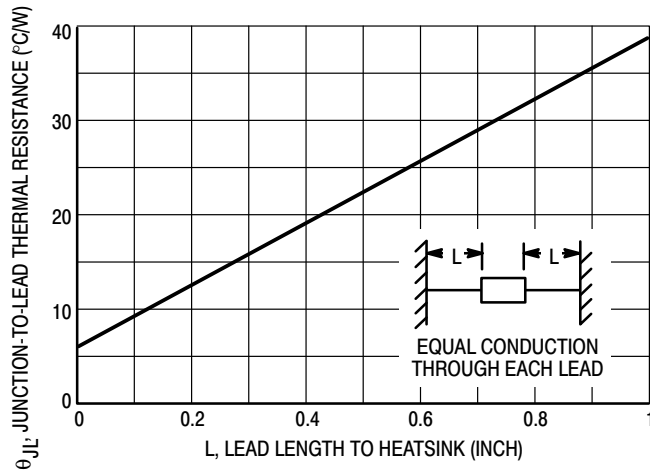
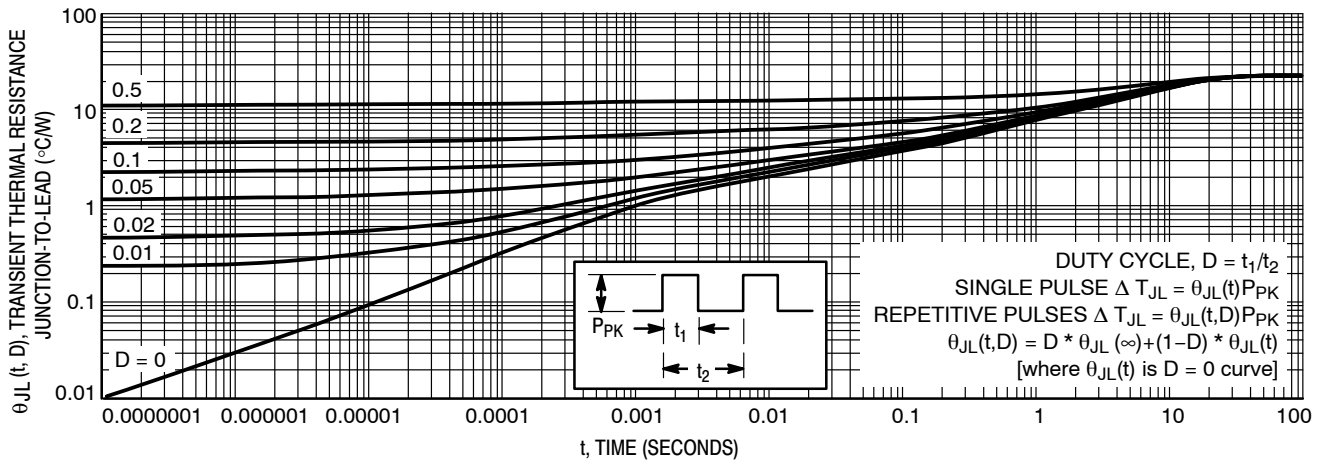
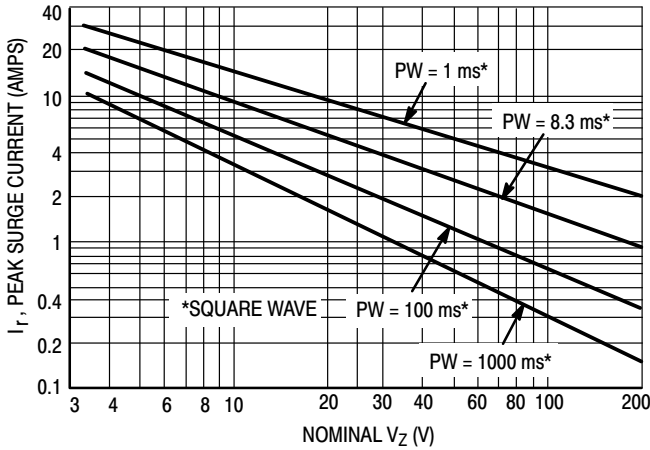
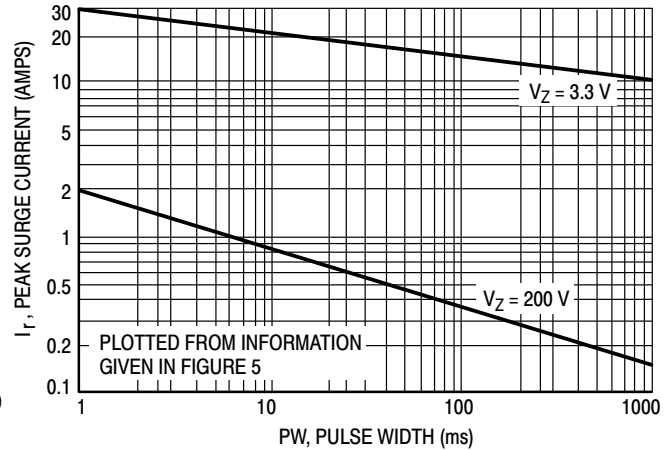

Figure 1. Typical Thermal Resistance
Figure 4. Typical Thermal Response
Figure 5. Maximum Non-Repetitive Surge Current
Figure 6. Peak Surge Current versus Pulse Width
- SURGE CURRENT (I_R):** Surge current is specified as the maximum allowable peak, non-recurrent square-wave current with a pulse width, PW, of 8.3 ms. The data given in Figure 5 may be used to find the maximum surge current for a square wave of any pulse width between 1 ms and 1000 ms by plotting the applicable points on logarithmic paper. Examples of this, using the 3.3 V and 200 V zener are shown in Figure 6. Mounting contact located as specified in Note 2 ($T_A = 25^\circ\text{C} + 8^\circ\text{C}, -2^\circ\text{C}$).
9. **SURGE CURRENT (I_R):** Surge current is specified as the maximum allowable peak, non-recurrent square-wave current with a pulse width, PW, of 8.3 ms. The data given in Figure 5 may be used to find the maximum surge current for a square wave of any pulse width between 1 ms and 1000 ms by plotting the applicable points on logarithmic paper. Examples of this, using the 3.3 V and 200 V zener are shown in Figure 6. Mounting contact located as specified in Note 7 ($T_A = 25^\circ\text{C} + 8^\circ\text{C}, -2^\circ\text{C}$).
ΔT_{JL} is the increase in junction temperature above the lead temperature and may be found from Figure 4 for a train of power pulses or from Figure 1 for dc power.
Data of Figure 4 should not be used to compute surge capability. Surge limitations are given in Figure 5. They are lower than would be expected by considering only junction temperature, as current crowding effects cause temperatures to be extremely high in small spots resulting in device degradation should the limits of Figure 5 be exceeded.